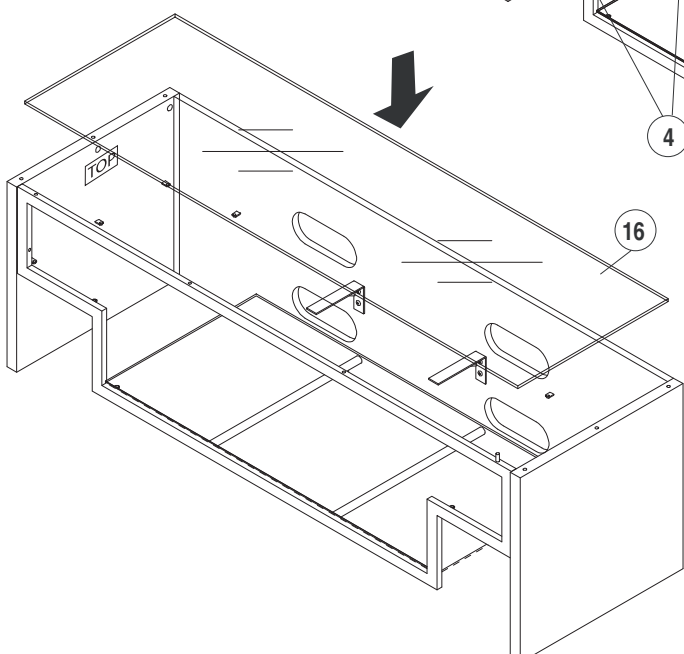

Fig. 4
I. USING 2 PEOPLE, AND WORKING FROM ABOVE AND THE FRONT OF THE PARTIALLY ASSEMBLED TABLE, CAREFULLY PLACE the center glass shelf (16) into the table so that it is resting on the shelf support pins (6) and the L-Brackets (8) as shown in Fig. 4.